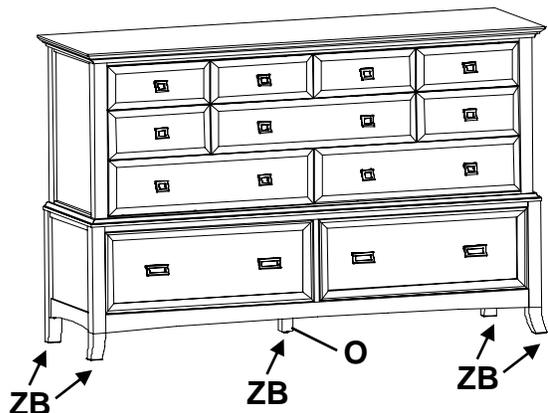

Fig. 3
- Place the dresser at its final destination. Rotate the Adjustable Glides (ZB) on the bottoms of the legs and Assembled Foot (O) until the unit is level. See Figure 3.